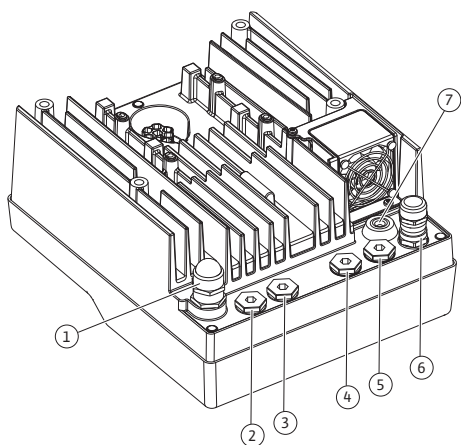

Fig. 18: Threaded cable glands/cable bushings
4. Guide the connection cable through the NPT ¾" (M25) threaded cable gland (Fig. 18, Item 1). Threaded cable gland with the specified torques.